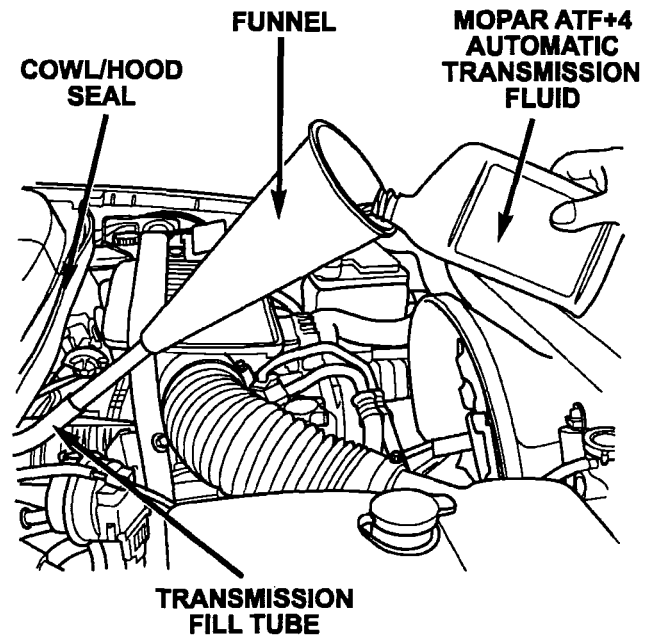

Figure 17
25. **On vehicles that had the torque converter replaced**, pour 8 quarts (7.5 liters) of new ATF+4 transmission fluid into the transmission through the fill tube (Figure 17).
26. **On vehicles that did not have the torque converter replaced**, pour 5 quarts (4.75 liters) of new ATF+4 transmission fluid into the transmission through the fill tube (Figure 17).
28. Pour an additional 5 quarts (4.75 liters) of new ATF+4 transmission fluid into the transmission through the fill tube (Figure 17).
30. **Repeat Steps 28 and 29 five (5) more times.**